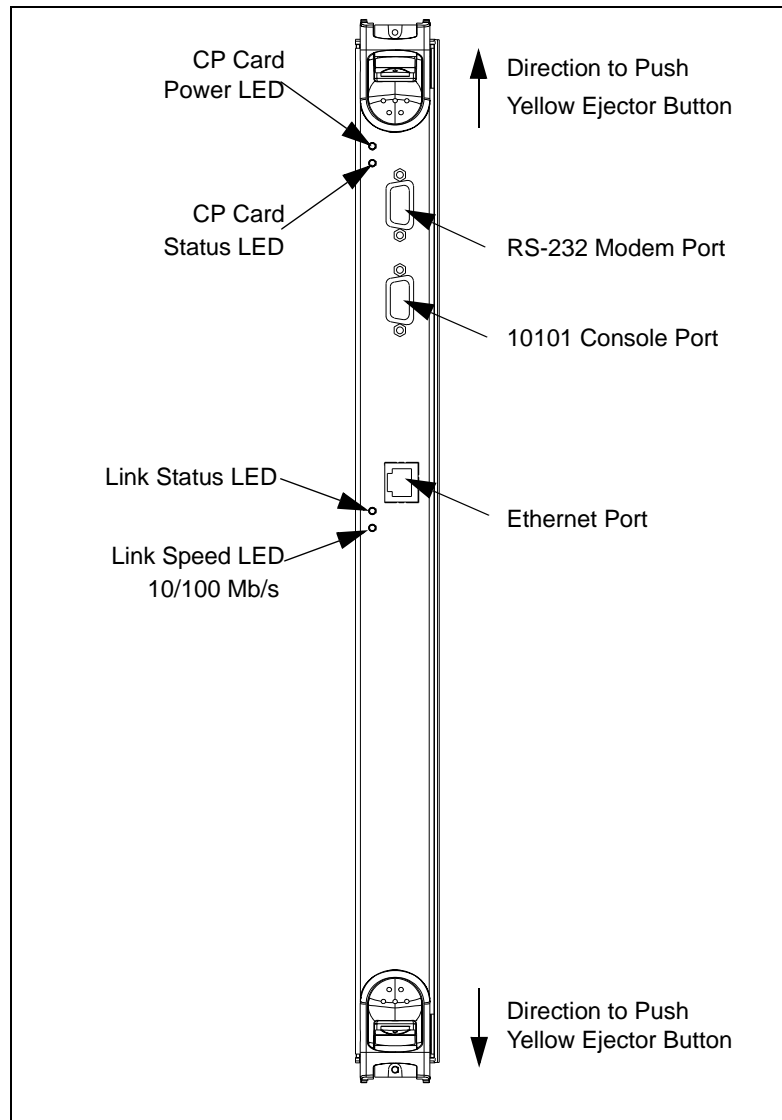

Figure 7-6 Front of the CP Card
There are two control processor (CP) cards in a SilkWorm 12000 chassis. The initial release supports an active-standby configuration where one CP card can manage two 64-port switches in the chassis. Figure 7-6 shows the CP card location in the chassis, Slots 5 and 6 are for the CP cards.